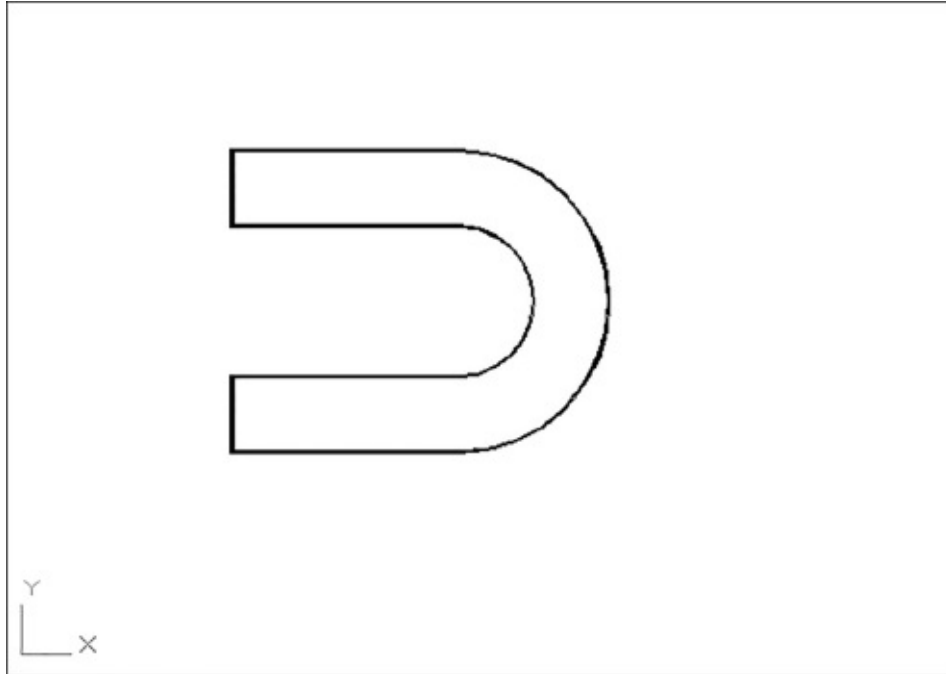

FIGURE 18.7 The polyline with a new thickness
3. At the Specify new width for all segments: prompt, enter **.03** ↵ for the new width of the polyline. The line changes to the new width (see Figure 18.7), and you now have a top view of your joint.